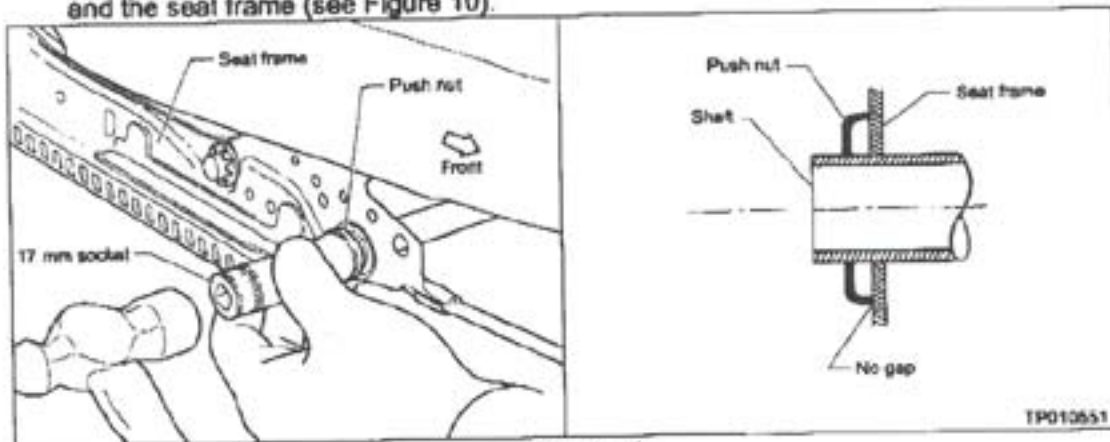

Figure 10
11. Use a 17mm socket and place it over the push nut. Tap the socket with a hammer to press the push nut against the seat frame. Ensure no gap exists between the push nut and the seat frame (see Figure 10).